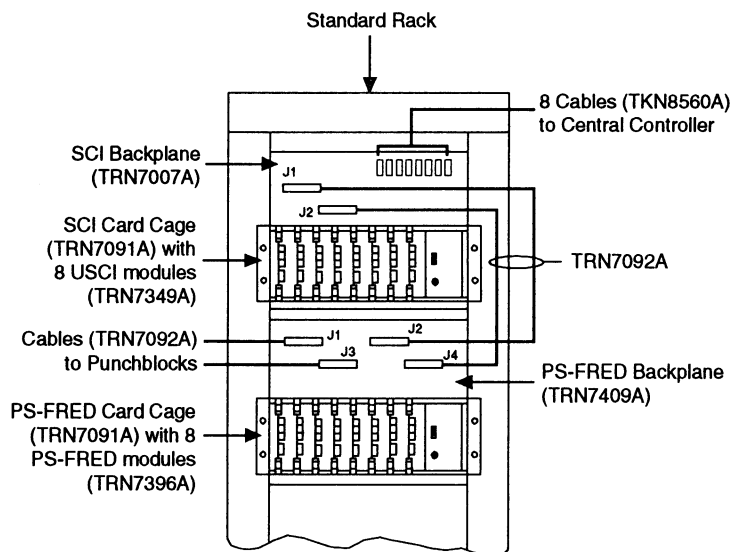

Figure 4. PS-FRED Chassis Installation
- Step 4. Refer to Figure 4. From the front of the rack, place the PS-FRED card cage immediately below the SCI card cage.